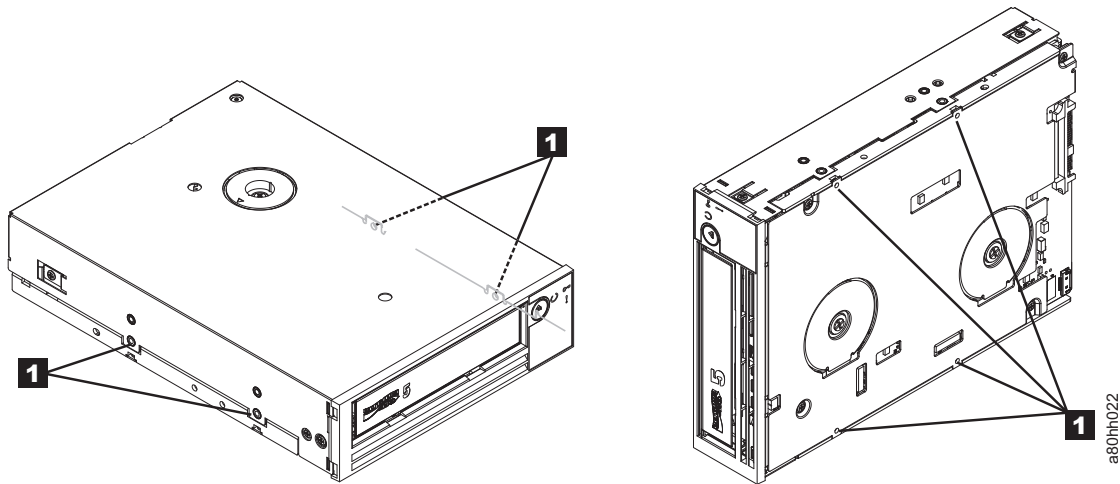

Figure 35. Removing the bezel and the cover from the internal drive
- 1) Remove the four cover-mounting screws (**1** in Figure 35 on page 88). Two screws are on each side of the drive.